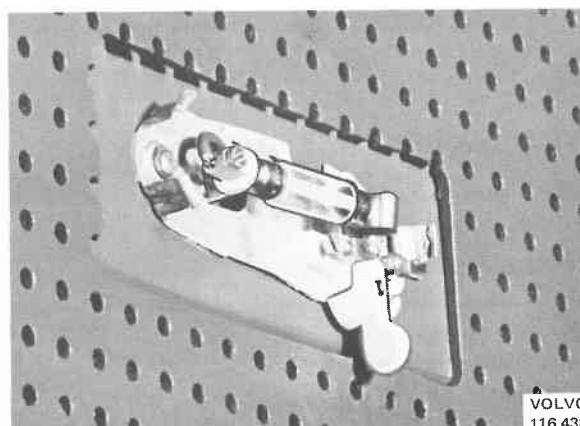

Fig. 35-9. Courtesy light bulb
2. Remove the bulb and fit a new one, see Fig. 35-9.